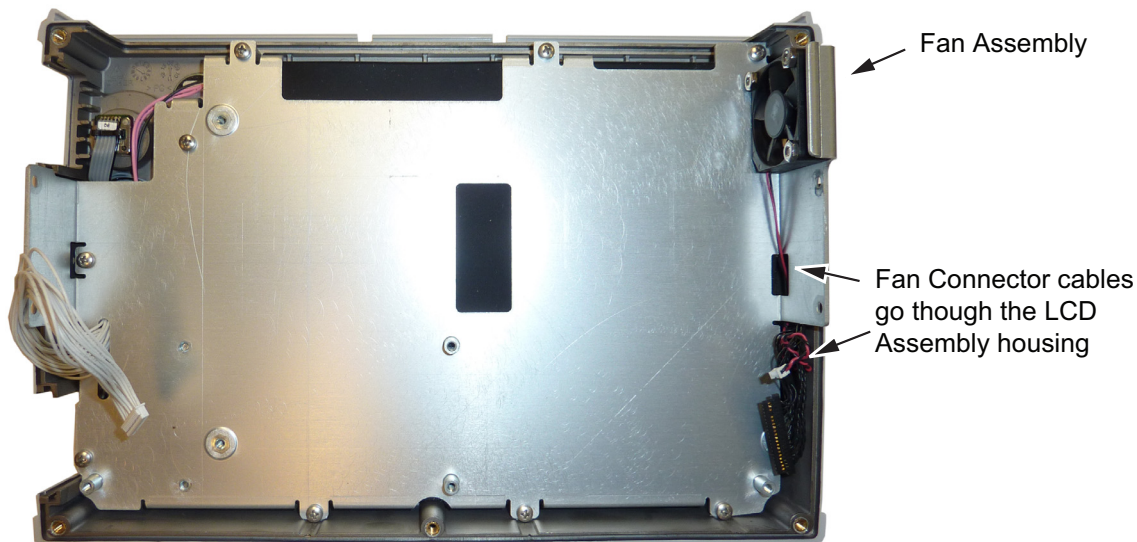

Figure 7-10. Front Panel Showing Fan Assembly
3. The fan is attached to the LCD housing by either three screws or three rubber mounts. If screws are used, remove the screws to remove the fan and re-use the existing screws to secure the replacement fan. If rubber mounts are used, cut the rubber mounts in order to remove the fan, and new rubber mounts will be included with the replacement fan assembly. Refer to (Figure 7-10).